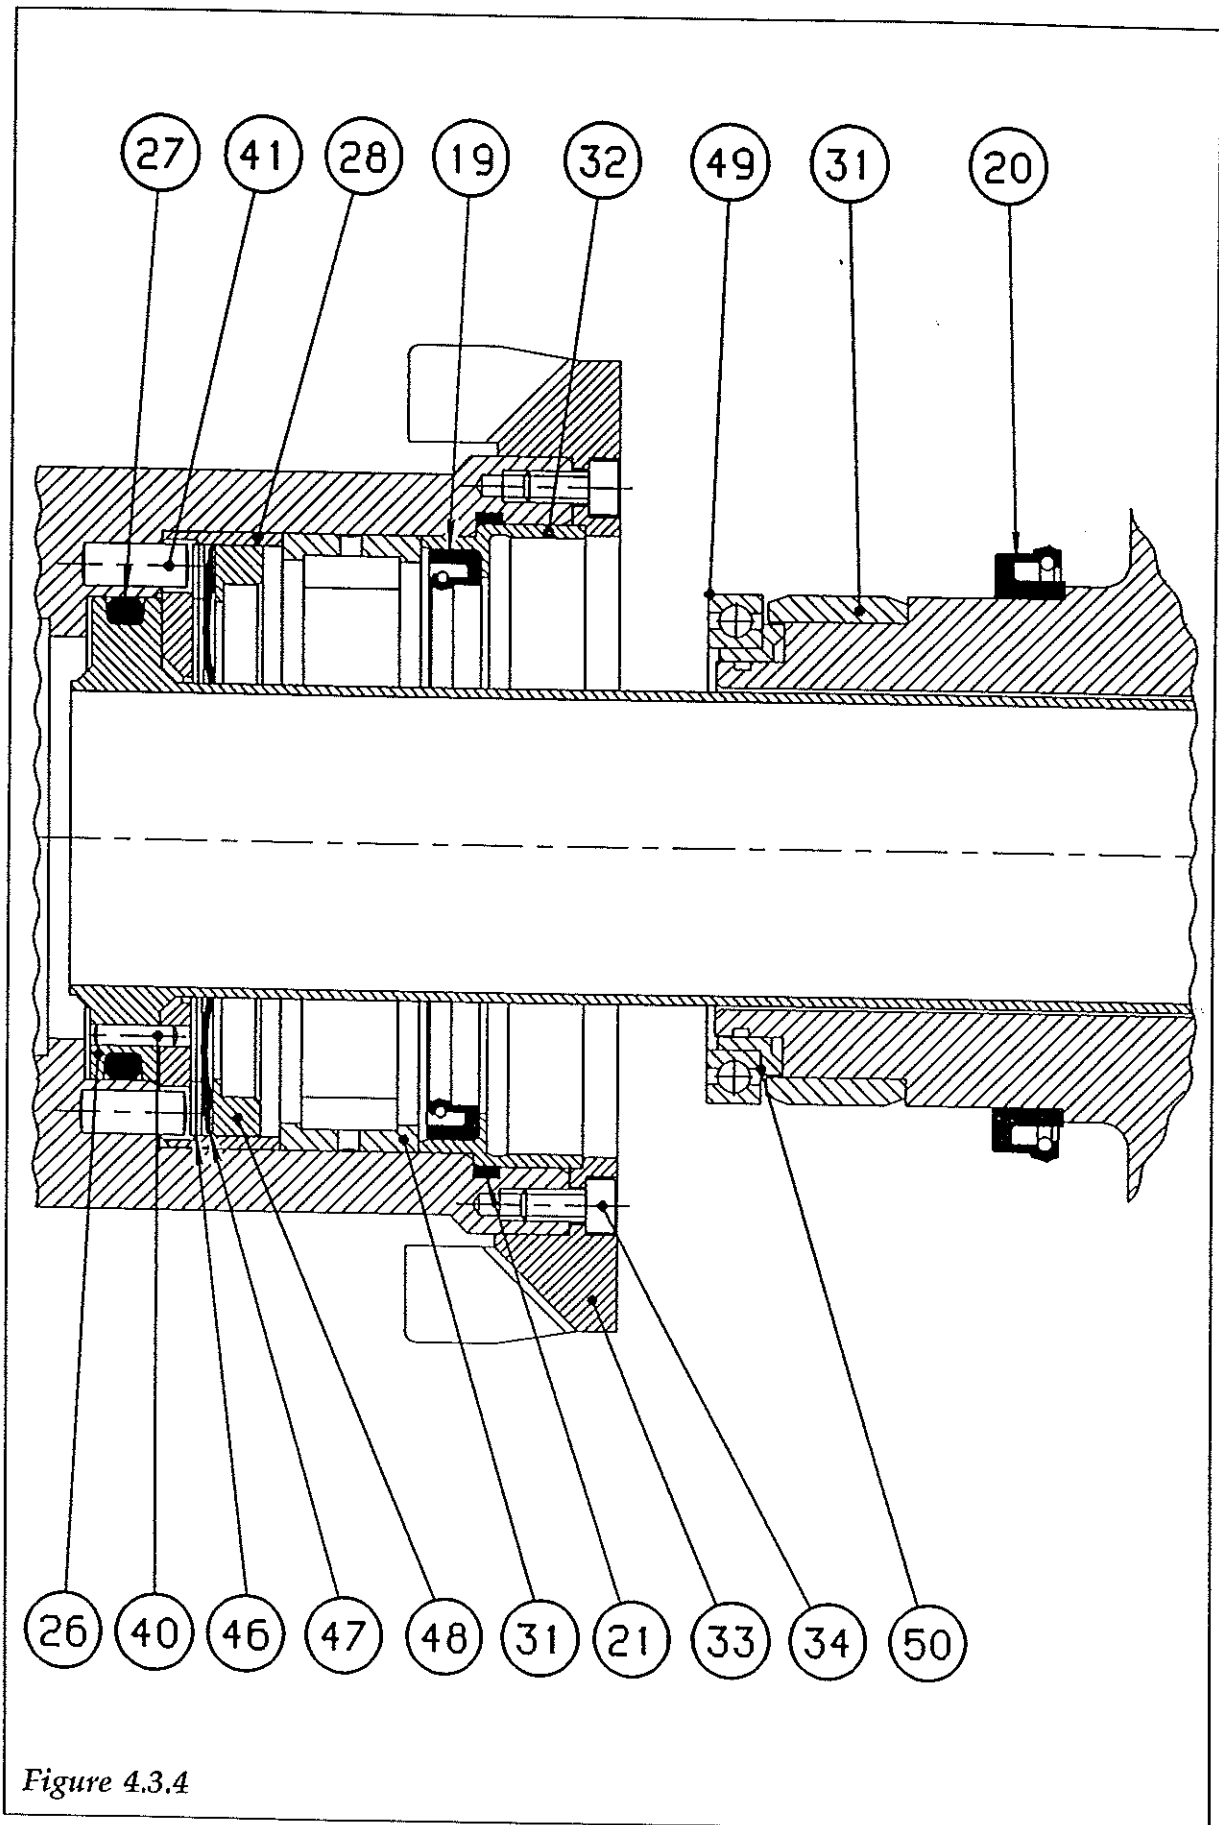

Figure 4.3.4
(Fig. 4.3.4)
4.3.4 Assemble Conveyor Bearing Small End (Fig. 4.3.4)